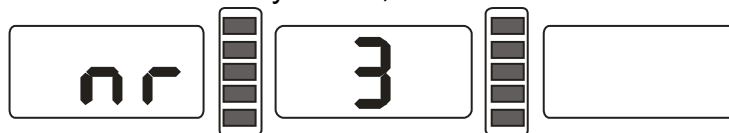

Figure 10-13
10.6.1 Press a+ key, back to figure 7-1 interface, press D key and OPT key, display input numbers of spoke (figure 10-13), press b+ or b- key input spoke numbers, press D key and OPT key to save and return to balance interface, slowly turn the wheel, turn the near by imbalance position of spoke on the top (12 o'clock), press D and OPT key, two underneath lights of SPLIT mode lights will be on, indication already enter hide stick mode, and then press D and OPT key to exit;